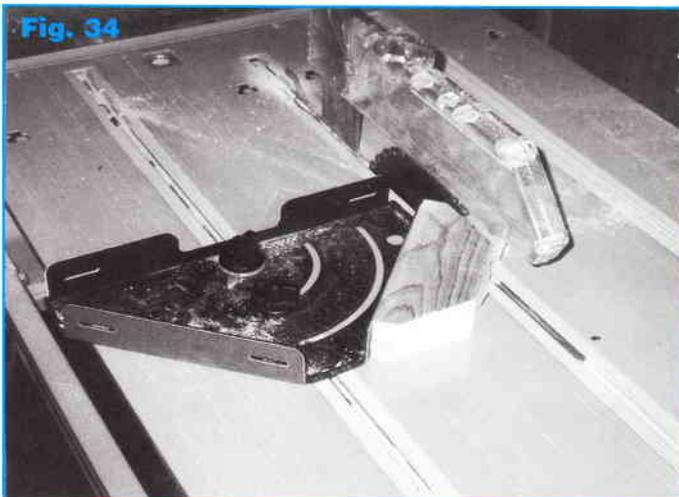

Fig. 34
Cut the braces (I) to size and trim off the bottom corners on the Workcentre at a 45 degree angle (Fig. 34).